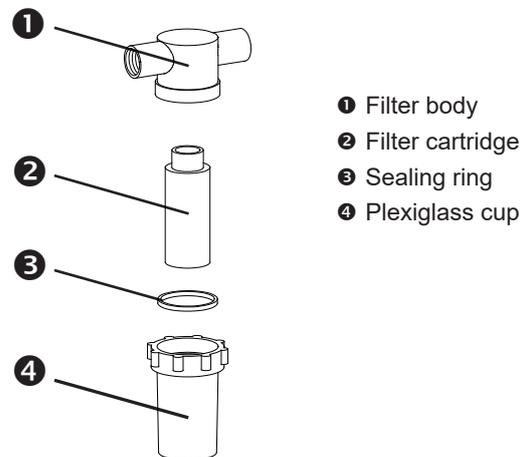

Fig. 7. Water filter
- Unscrew plexiglass cup (4, Fig. 7) from filter body (1, Fig. 7) by turning counterclockwise.
- Remove filter cartridge (2, Fig. 7) and replace with a new one.